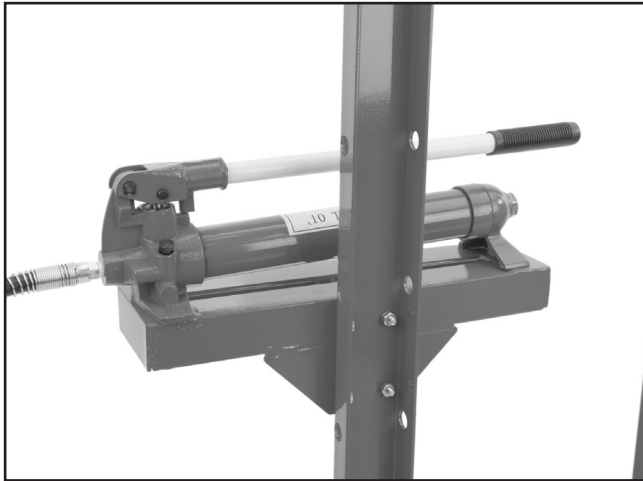

Figure 7. Pump installation.
10. Place the hydraulic pump on the pump bracket and secure with M8-1.25 x 25 hex bolts and lock washers as shown in **Figure 7** on the next page.